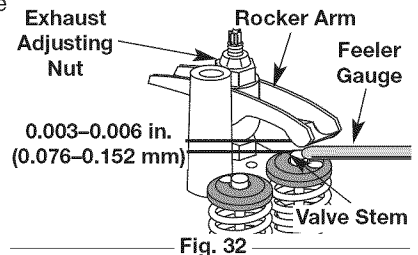

Fig. 32
7. Slide the feeler gauge between the rocker arm and the valve return spring. Measure the clearance between the valve stem and rocker arm (Fig. 32). Measure both the intake and exhaust valves.
- a. Turn the adjusting nut using a 5/16 inch (8 mm) wrench or nut driver (Fig. 32).